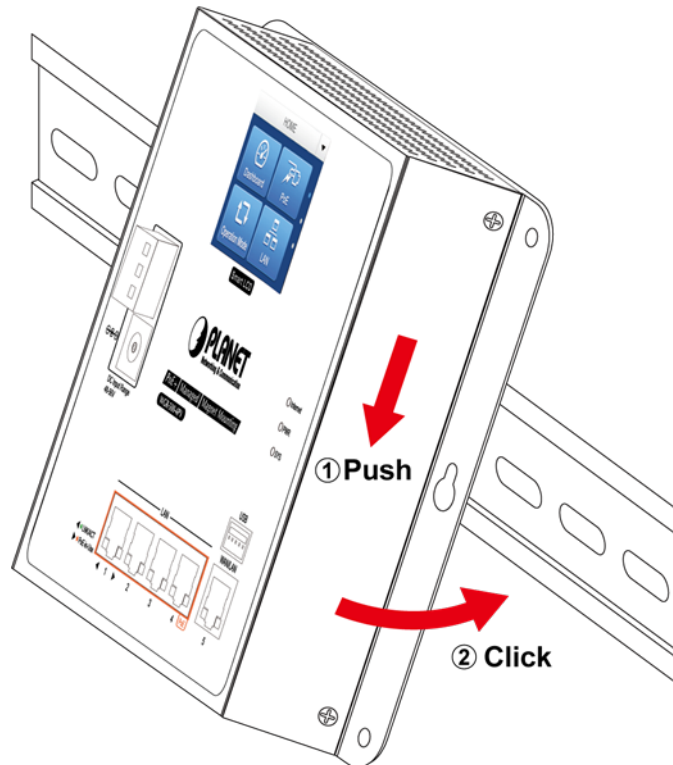

Figure 2-16: Router is placed on the track
Step 2: Lightly insert the DIN-rail bracket into the track as shown in Figure 2-16.